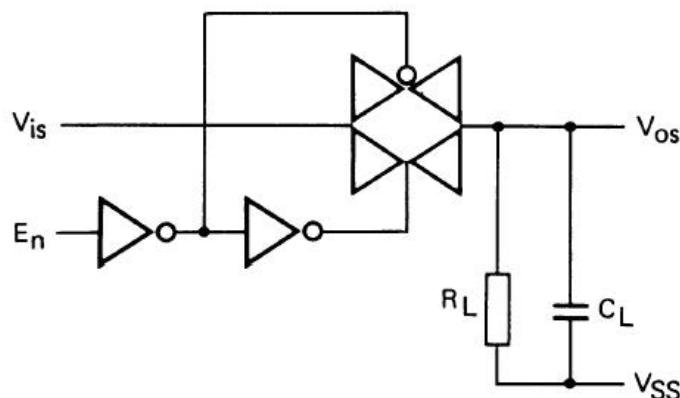

图 7
5. $RL = 10 \text{ k}$, $CL = 15 \text{ pF}$; $E_n = V_{DD}$; $Vis = 1/2 V_{DD}$ (p.p) (正弦波, 直流偏置为 $1/2 V_{DD}$); $f_{is} = 1 \text{ kHz}$; 见图7.
$20\log(V_{OS}/V_{IS}) = -50\text{dB}$; 见图7;
$20\log(V_{OS}/V_{IS}) = -3\text{dB}$; 见图 7;